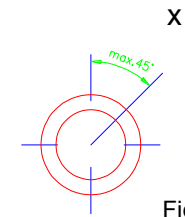

Fig.1
- Install the switch only vertically, max. deviation is 45° (fig.1).